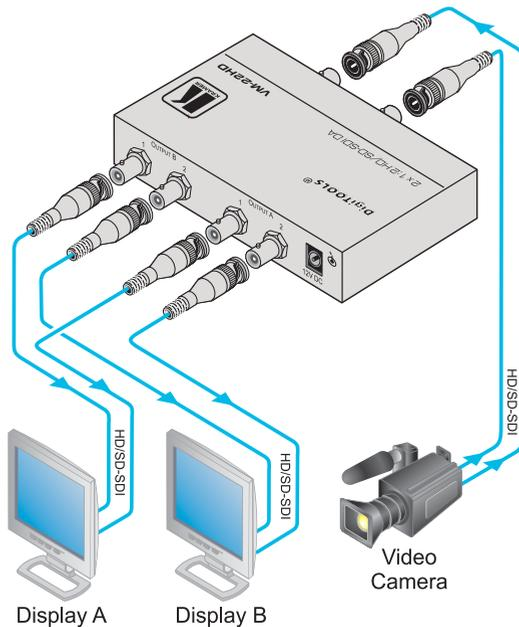

Figure 3: Connecting the VM-22HD in Dual Link Mode
To connect the **VM-22HD**, as the example in Figure 3 illustrates, do the following1:
4. Connect the 12V DC power adapter to the power socket and connect the adapter to the mains electricity (not shown in Figure 3).